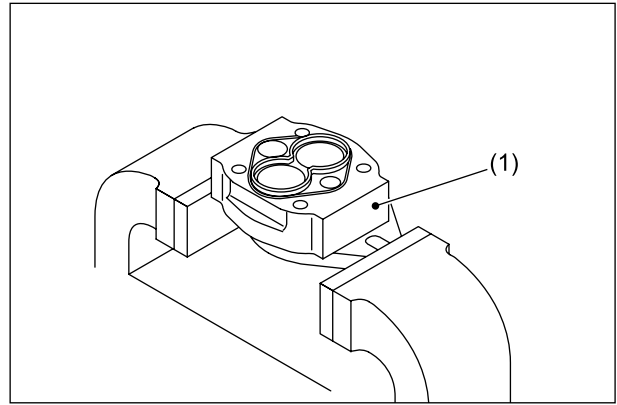

Fig. 3.385
- ① As shown in Fig. 3.385, hold the front cover (1) in a vise.